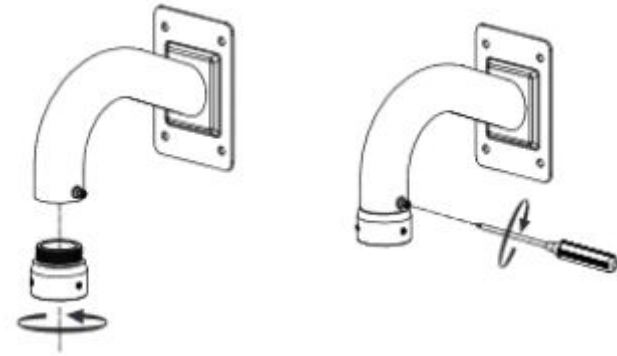

Figure 2-3
Step 3 Thread the Mount adaptor to the gooseneck mount and tighten the set screw as shown in Figure 2-3.